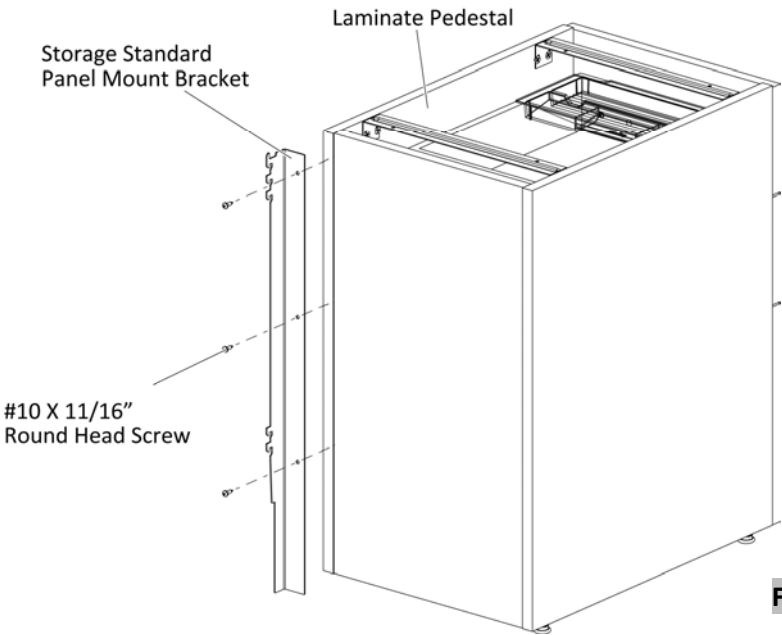

Figure 1
- 1. Position and align the outer corner of the storage standard panel mount bracket with the outer corner of the pedestal, parallel to the vertical edge of laminate pedestal, (Figure 1).